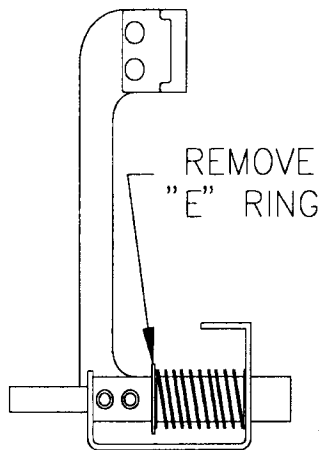

Fig. 5a
e. To replace coil spring, remove "E" ring from kicker armature. (See Fig. 5a)